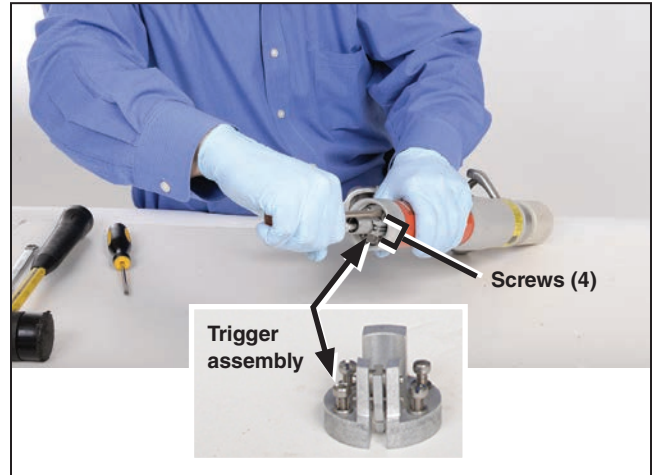

Figure 5. Remove the four screws securing the trigger assembly to the inner tube assembly. Remove the trigger assembly.
STEP 3. Remove the four screws that fasten the trigger assembly to the inner tube assembly, and withdraw the trigger assembly. Discard the screws. See Figure 5.